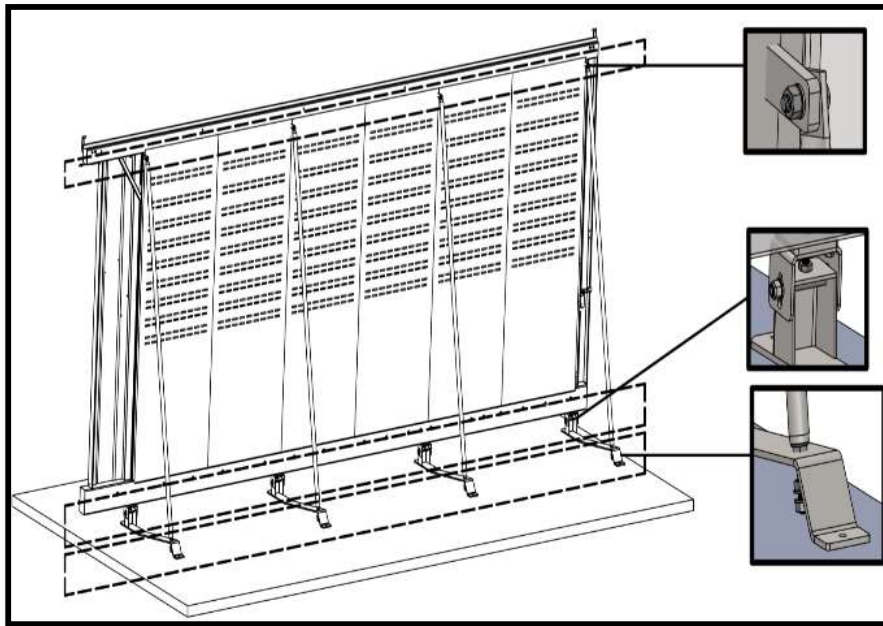

Figure 2.2 – Chassis Feet Set Points
- 2- The feet are adjusted so that all the feet of the chassis are pressed. (figure 2.2)